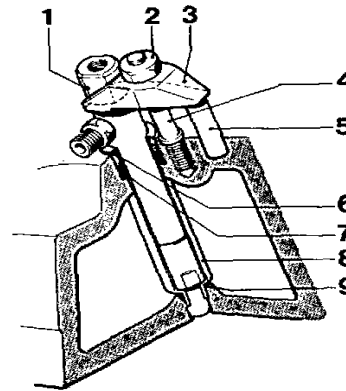
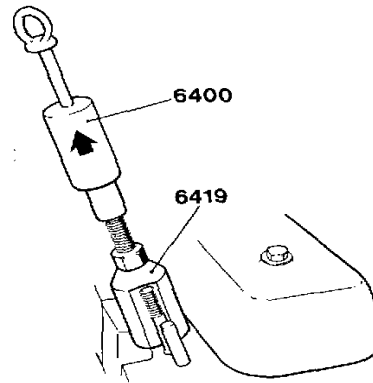

Fig. 150B. Installed injector
Fig. 153. Removing the steel ring
5. Pull out the steel ring (6, fig. 150B) above the copper sleeve with the puller 6419 (fig. 153).
7. Remove the upper sealing ring (7, fig. 150B). Clean the upper and lower guides in the cylinder head.
8. Oil in a new upper sealing ring (7) and the upper guide in the cylinder head. Do not allow oil to enter the coolant passages. Fit the sealing ring into the cylinder head.
9. Fit a new O-ring on the new copper sleeve lower guide (9). Press the sleeve into the cylinder head.
10. Place a new steel ring (6) into position. Guide the drift 6421 (60 series), or 6420 (70 series) through the ring and the copper sleeve.